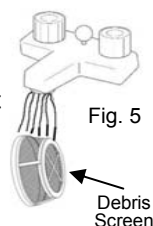

Fig. 5
6. "TapClean" the Debris Screen or rinse under a faucet until clean. (fig. 5) Remember that the Debris Screen must be completely dry before reinstalling in the vacuum.